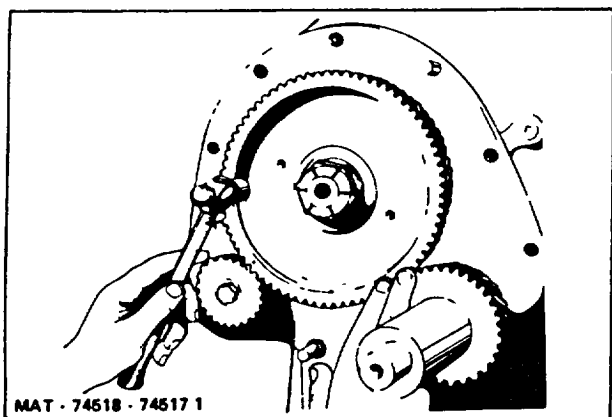

Figure 59. Checking Gear Fit
9. To be certain that there is enough clearance, hold finger at the junction of the two gears and, with a light hammer, tap the rim of the cam gear and note if there is vibration felt at this point (Figure 59).